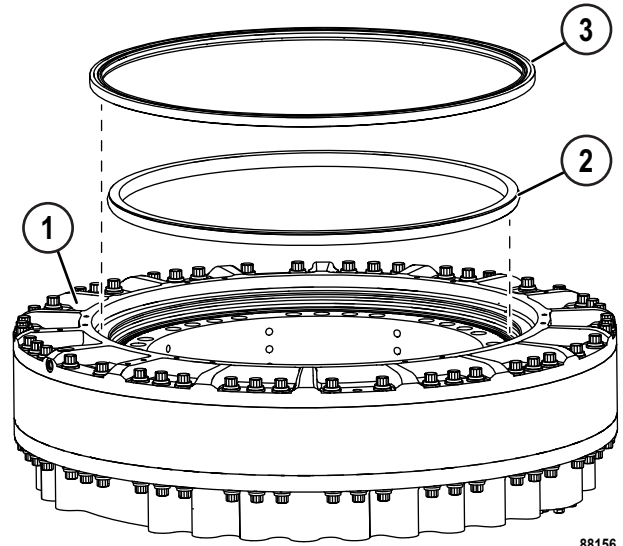

FIGURE 50-77. BRAKE SEAL ASSEMBLY REMOVAL
19. Turn over the brake assembly so that the back plate side is facing upward. Remove dust seal (3, Figure 50-77), and floating seal (2) from the brake assembly (1).